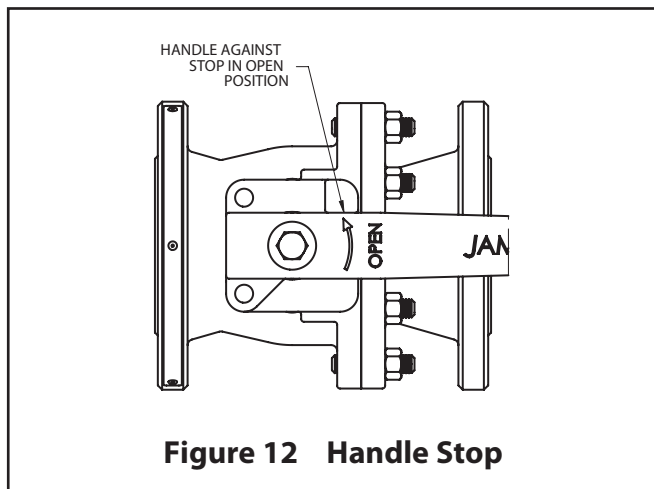

Figure 12 Handle Stop
5. Install the handle screw (6) and washer (5). Tighten handle screw (6) to value listed in **Table 6**.
7. Rotate handle bracket (2) until the handle stop contacts the side of the handle (1) (see **Figure 12**).